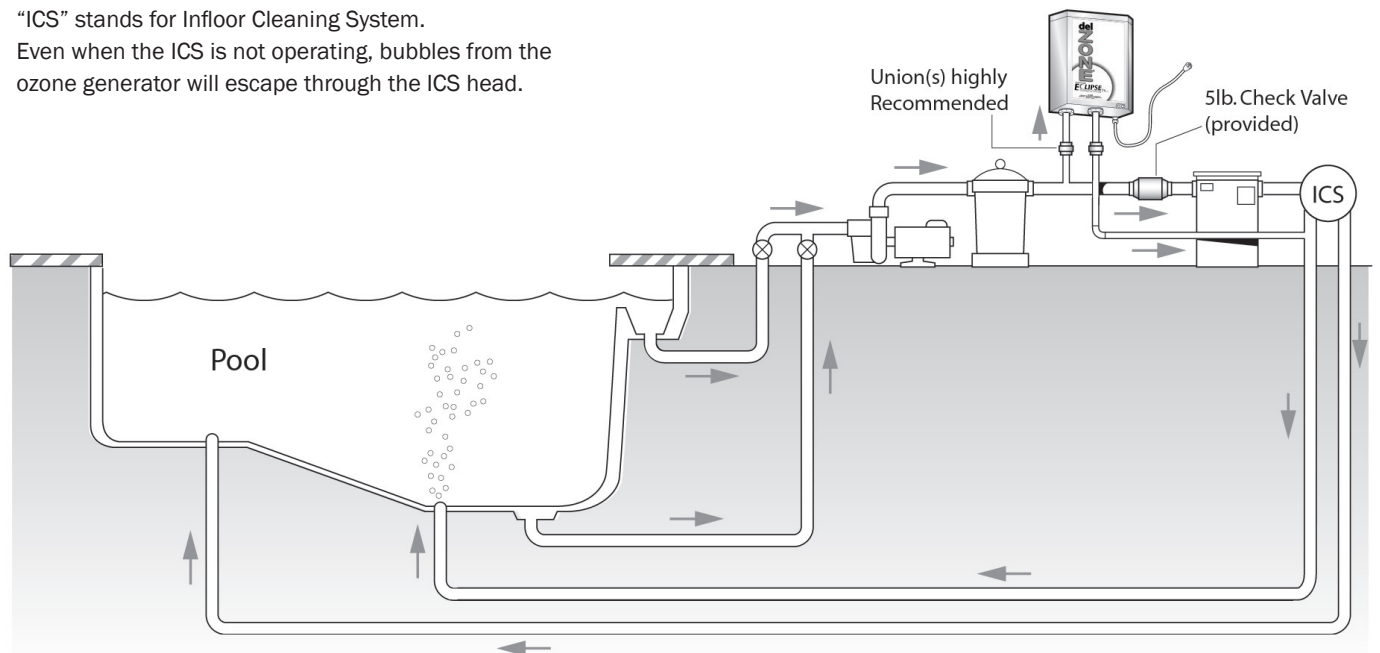
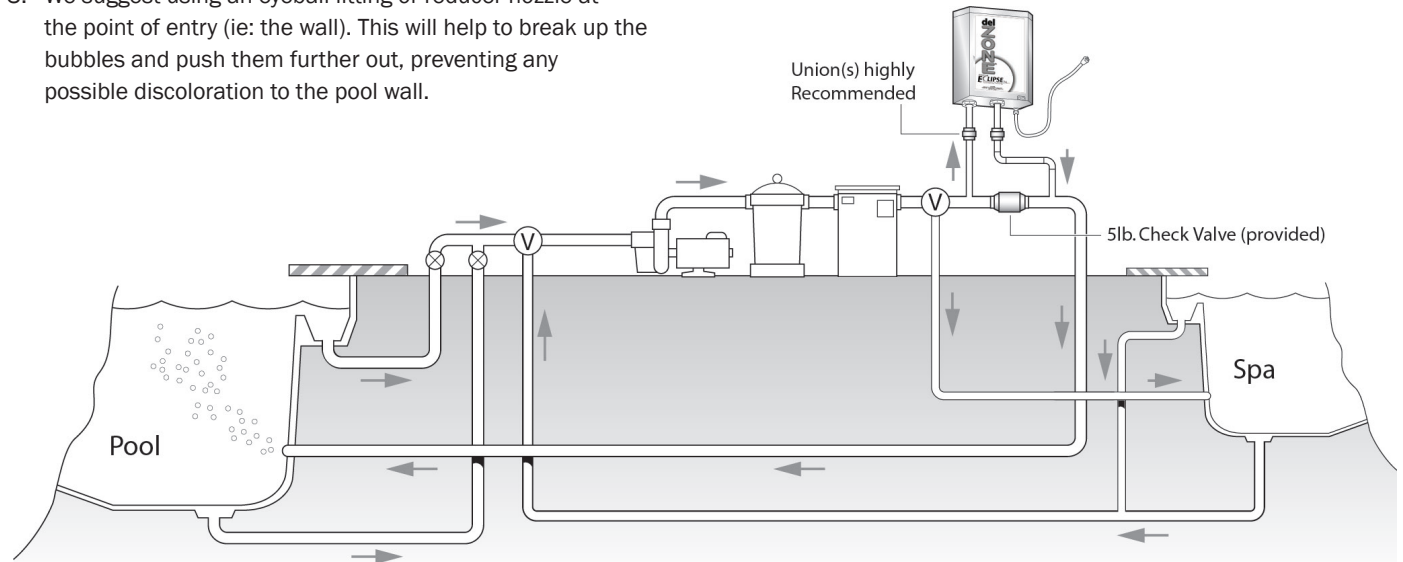
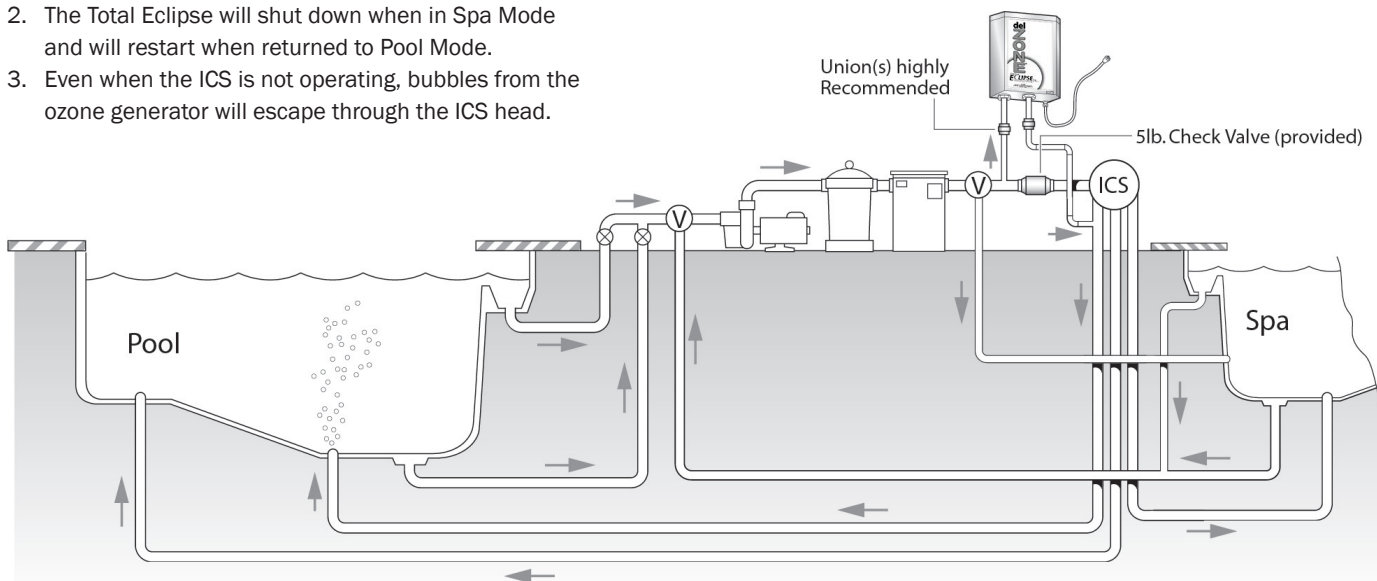

Figure 2: **Existing Pool** with Infloor Cleaning System
Figure 3: **Existing Pool/Spa Combination** without Infloor Cleaning System
Figure 4: **Existing Pool/Spa Combination** with Infloor Cleaning System
4. For optimum ozone distribution, the ozonated water should be returned back to the pool through a dedicated pipe in the bottom of the pool. If it is not possible to install with the dedicated return to the bottom of the pool, then install the Total Eclipse as shown in Figures 2, 3, or 4 based on the specific configuration of your system. These installation figures cover the following installation types: Figure 2—existing pools with in-floor cleaning system (ICS); Figure 3—existing pool/spa combination without in-floor cleaning system; Figure 4—existing pool/spa combination with in-floor cleaning system.
- a. Plumb the Water Inlet to the Total Eclipse as shown in Figures 2, 3, and 4,